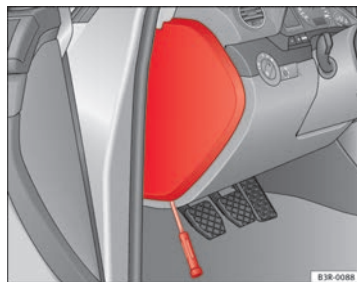

Fig. 188 Left side of dash panel: Fuse box cover
- Remove the fuse cover using a screwdriver ⇒ Fig. 188.